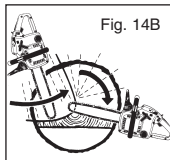

Fig. 14B
2. When diameter of wood being cut is greater than the bar length, make 2 cuts as shown (Fig. 14B).